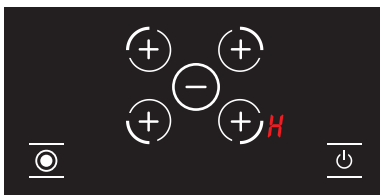

Figure 18
4. If after 20 seconds a hotplate is still hot, until the temperature of the corresponding hotplate drops below +60 °C, the symbol **H** will light up on the display. (See Fig. 18.) After the hob is switched off in case the corresponding hotplate is not hot, no indication is displayed.